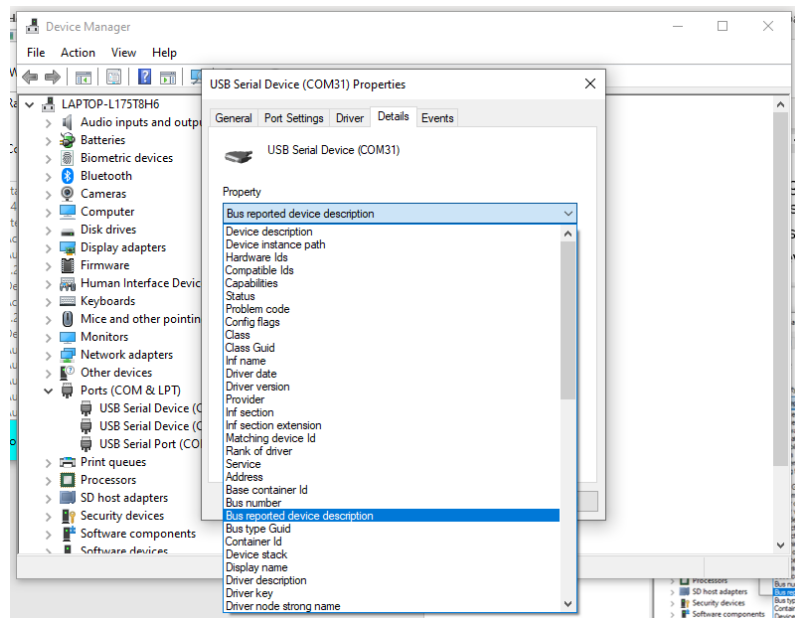

Figure 1: Identifying the 'Bus reported device description' on COM port properties
- c. Go to the 'Details' tab and from the 'Property' drop-down list, select 'Bus reported device description', as shown in figure 1.